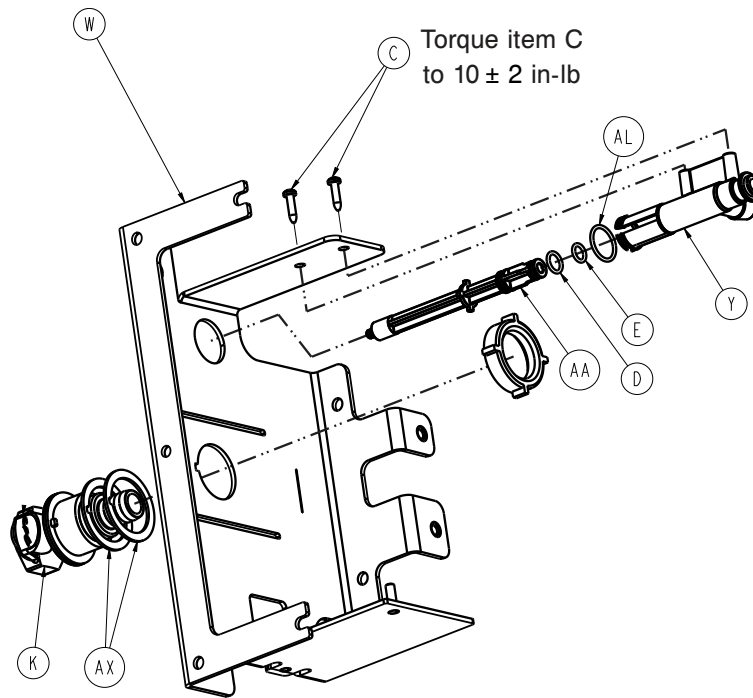

Figure 19 – Drain valve screws
7. Pull up and rotate the fluid bracket to access the drain valve screws (C) (Figure 19).